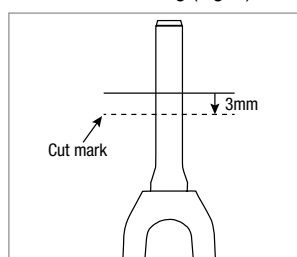

Figure 7
10. Locate the mark made in step 8. Measure down 3 mm and make a new mark for cutting (Fig. 7). Erase the first mark.